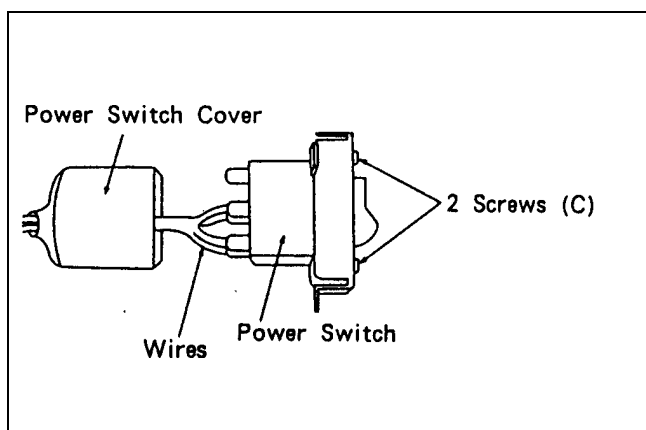

Figure 7-17-3 Power Switch Removal
3. Unscrew 2 screws (C) and unsolder wires as shown in Figure 7-17-3.